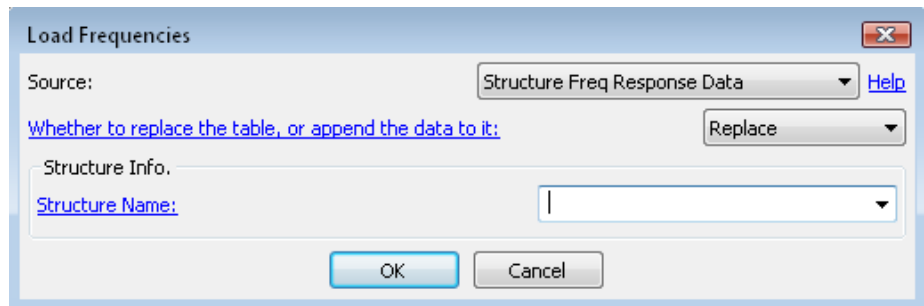

Figure 7.21 Load frequencies from the structure frequency response data.
7.2.2.5. Structure Frequency Response Data Analysis frequencies could be extracted from a structure's frequency response data using this option (Figure 7.21). Verify whether the selected structure (defined in **Structure Name**) has frequency response data from: **Model** → **Structures** → <Structure Mesh Name> → **Freq Response Data**. See Section 5.1.2 on how to load frequency response data of a structure to the *Coustyx* model. Press OK to load frequencies. A new dialog box with the list of available frequencies from the frequency response data appear. See Figure 5.6. Select the frequencies of interest by checking/unchecking a frequency or by using any of the buttons: **Select All**, **Unselect All**, or **Select by Frequency Range....** If there is no frequency response data available for the selected structure, an alert window will pop up with the same message.